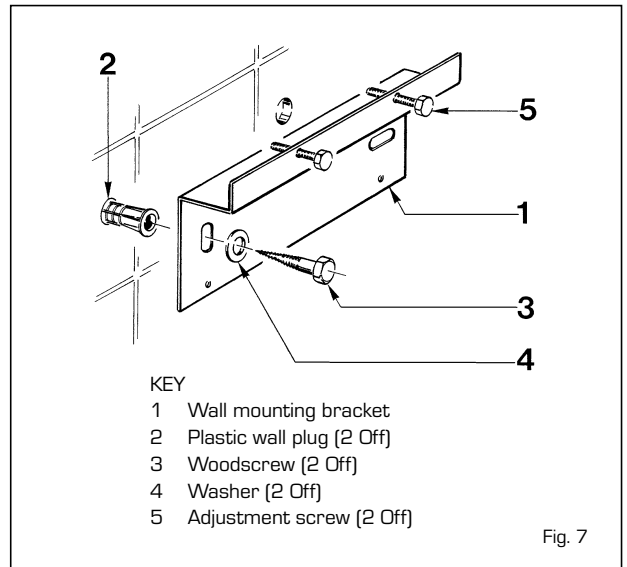

Fig. 7
- Secure the wall mounting bracket in position using the screws provided. Ensure that it is the correct way up, as indicated in fig. 7.